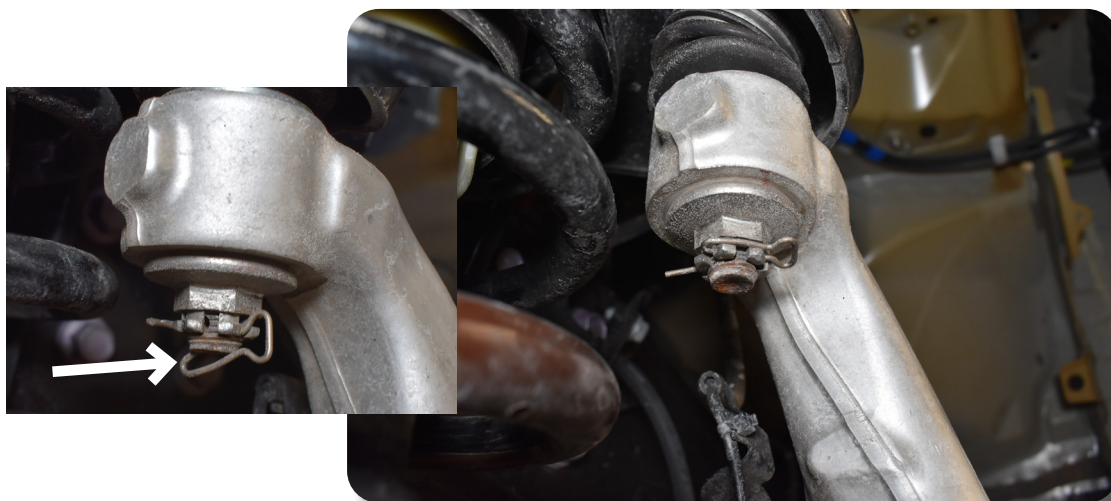

Figure 8
12. Remove UCA castle nut retaining pin by rotating down and pulling out. Fig. 8